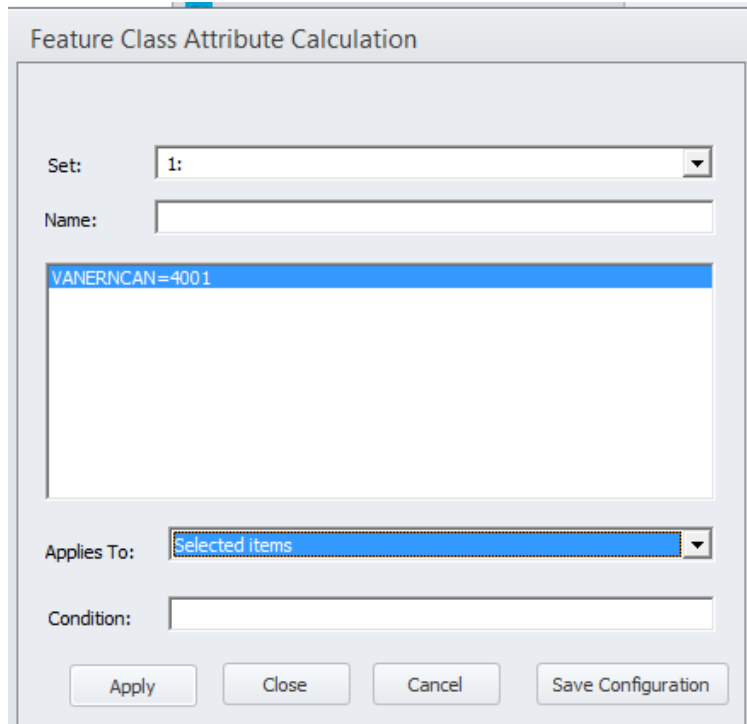

Figure 78 The Feature Class Attribute Calculation window under process to change capacity in Trollhätte canal
- 6) Select Node -> Compute and type in the equations by right-clicking in the largest field (in the middle) and select “Insert” (e.g., VANERNCAN=4001 (see Figure 78). To see the available parameters, right-click in the blank field in the Insert Equation window) and